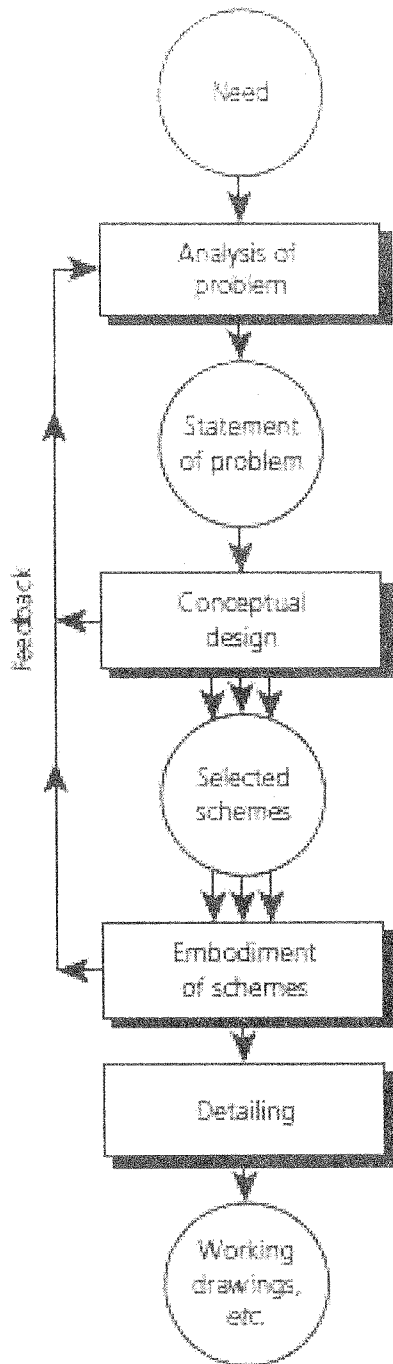

Figure Q2
- Q2. a) Figure Q2 shows the design model developed by French, 1999. Discuss its suitability or unsuitability for the design project that you conducted as a group under this module ME3111. [3.0 Marks]